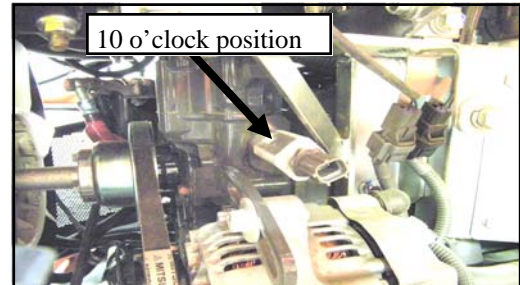

FIG. 2.2
- 2.2 Drain the cooling system. For the supply line to the heater, remove the sending unit. Install the sending unit in the hex bushing of the sending unit adaptor. Install the hex bushing into the end of the adaptor with a large plastic washer from the hardware kit. Install a small plastic washer onto the end of the sending unit adaptor and install into the engine block where the sending unit was removed. If the sending unit adaptor does not tighten so that the port on the side for the 3/8" NPT elbow points to 10 o'clock as shown in Figure 2.2, then remove it and install another small plastic washer and try again.